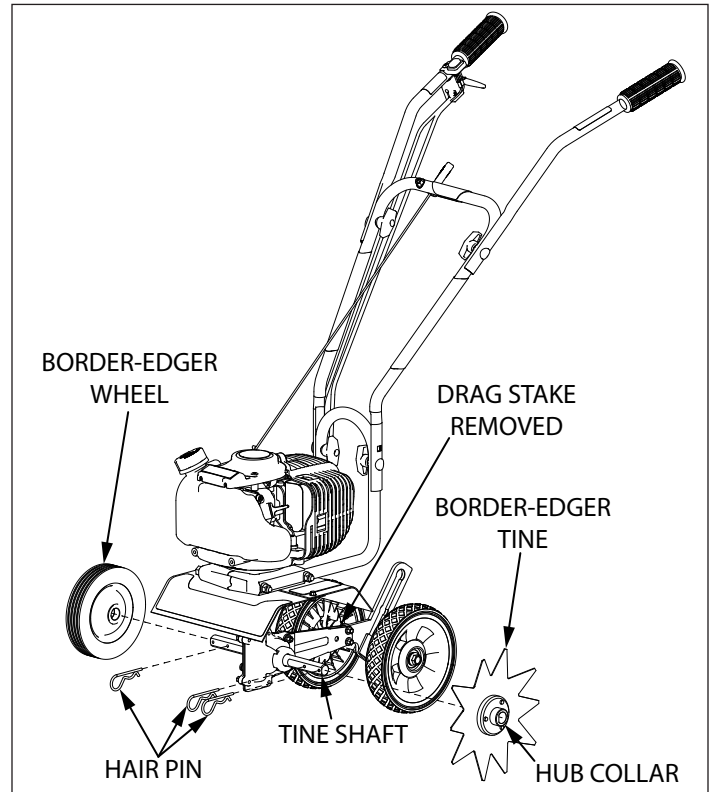

FIGURE 13
5. Store the tines and save the (2) hairpins; they will be used on the Border-Edger Kit.
6. Slide the border-edger tine onto either side of the tine shaft. Make sure that the hub collar of the border-edger tine faces outward, away from the transmission of the cultivator. **SEE FIGURE 13**
7. Take the (2) hairpins saved in *Step 4* and insert them through the inner and outer holes in the tine shaft on each side of the border-edger tine to secure the tine blade in place on the shaft. **SEE FIGURE 13**
9. Insert the remaining (1) hairpin, that came with the kit, through the inner hole to secure the wheel. **SEE FIGURE 13**